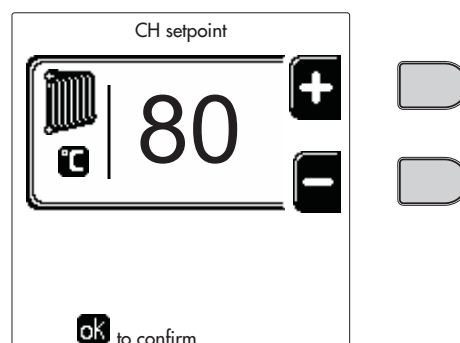
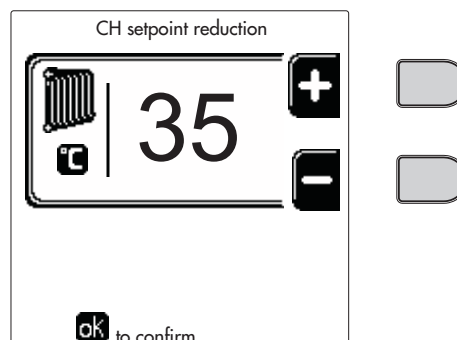
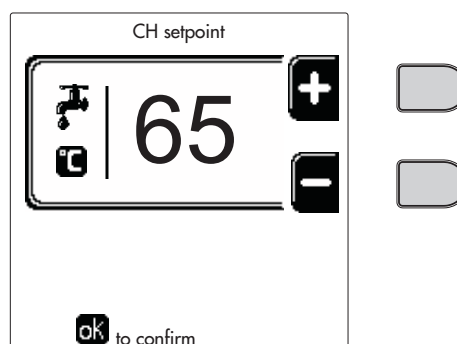
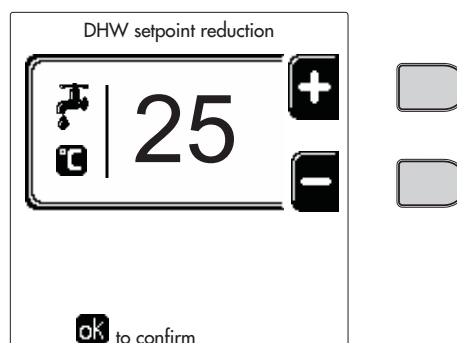

fig. 13
fig. 14
fig. 15
fig. 16
- **ON**. In case of a Heating/DHW request, the boiler works at the set Heating/DHW Adjustment Temperature (fig. 13/fig. 15).
- **re**. In case of a Heating/DHW request, the boiler works at the Reduced Adjustment Temperature. The Reduced temperature is obtained by subtracting the Reduction Adjustment Temperature (fig. 14/fig. 16) value from the set Heating/DHW Adjustment Temperature (fig. 13/fig. 15).